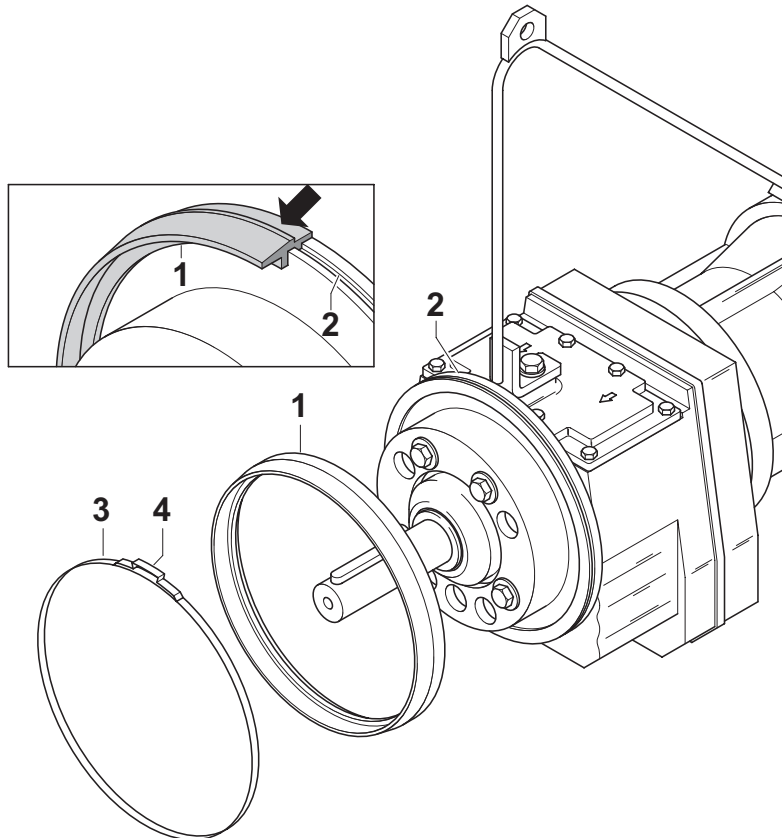

Figure 13 Solids-deflection-ring removal/assembly
**NOTE** In Figure 13 the exchange of the SD-ring on a RW mixer motor is shown. The installation on the flow booster is similar.
- When refitting the SD-ring (13/1), this should be pressed around its circumference by hand as shown in *Figure 13* and pressed down into the groove of the motor cover.